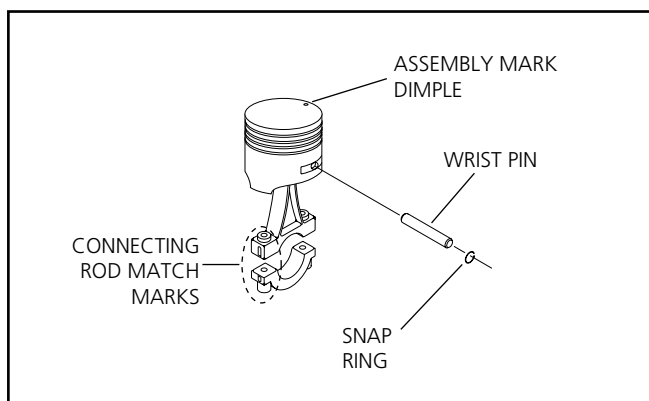

Figure 12-7. Assemble Piston to Connecting Rod
- d. Assemble the piston to the connecting rod. The assembly mark dimple on top of the piston should be opposite the match marks on the rod. See Figure 12-7.